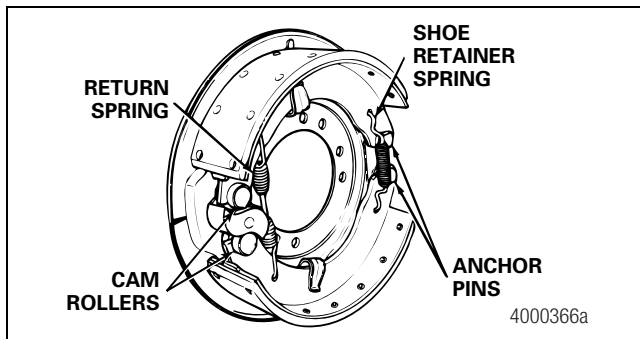

Figure 5.24
3. Install a new brake shoe return spring with the open end of the spring hooks toward the camshaft. Install the brake shoes onto the anchor pins. Figure 5.24.